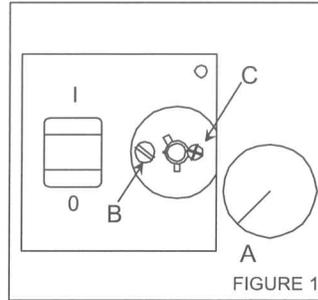

FIGURE 1
Behind the knob there are red and blue locking rings held in position by a screw. To set the limitations, loosen the screw (C) seen in Figure 1, and adjust the red limit ring to the desired maximum, and the blue to the desired minimum temperature. Replace the knob to the exact position as it was removed.
Remove the knob (A) from the front plate and loosen the flat head screw (B) to remove the frame and the front cover as seen in Figures 1&2. Refer to the appropriate model type for proper wiring.